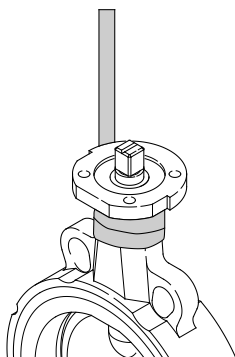
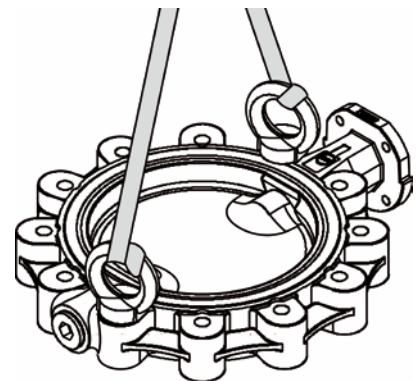

Fig. 1
Fig. 3
- attach lifting straps in accordance with Fig. 1 to Fig. 3